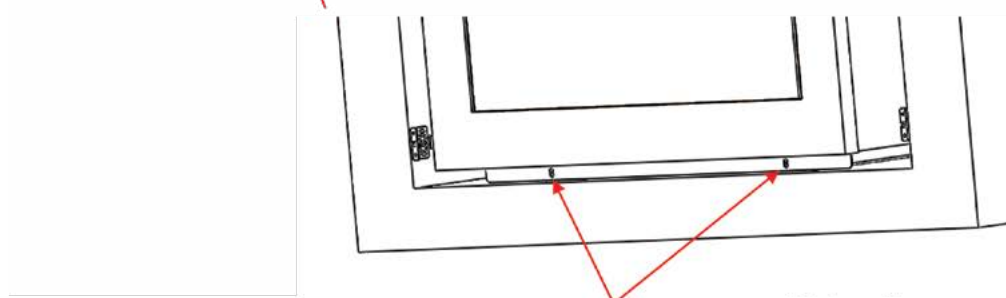
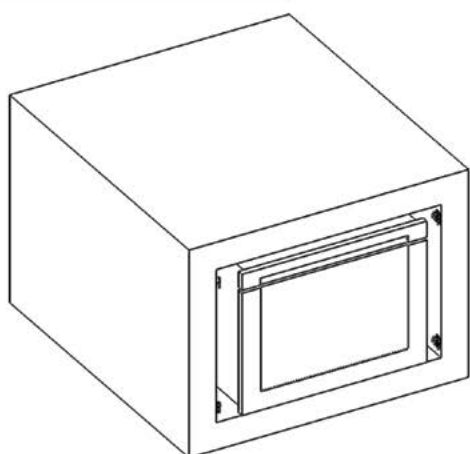

Figure 11
Figure 12
6. Use the two #3 screws to fasten the front bracket to the front of both support beams (see *Figure 11*). The microwave should now be firmly secured inside the cabinet cutout (see *Figure 12*).